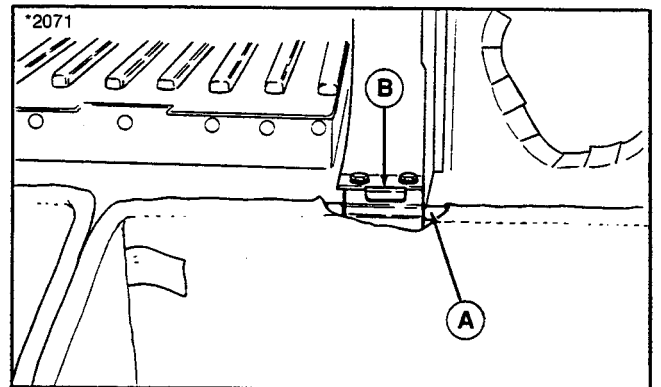

Figure 15.
19. Open grass bag cover and install grass bag frames (A, figure 15) to support brackets (B). Make sure cover handle latches to grass bag frames.